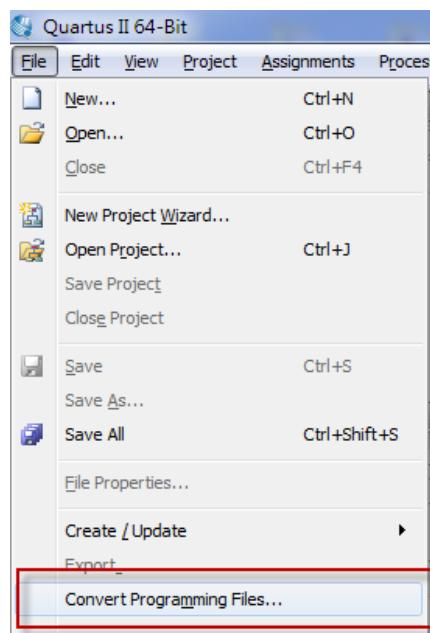

Figure 8-1 File menu of Quartus II
1. Choose **Convert Programming Files** from the File menu of Quartus II, as shown in Figure 8-1.